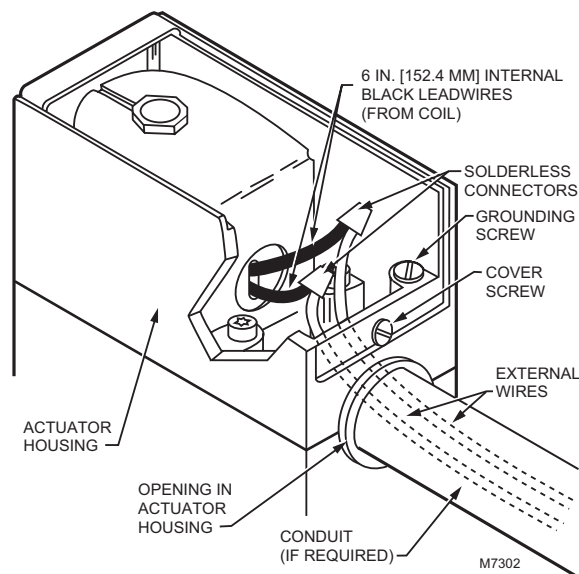

Fig. 12. Wiring connections and actuator housing.
Replacing the coil assembly (Figs. 12 through 15)
2. Loosen the cover screw in the front of the actuator housing (Fig. 12) and remove the housing cover.
3. Disconnect the external wires from the two internal black leadwires (Fig. 12).
16. Reconnect the external wires to the two internal black leadwires (Fig. 12).
17. Replace the housing cover, and tighten the cover screw holding it to the actuator housing (Fig. 12).